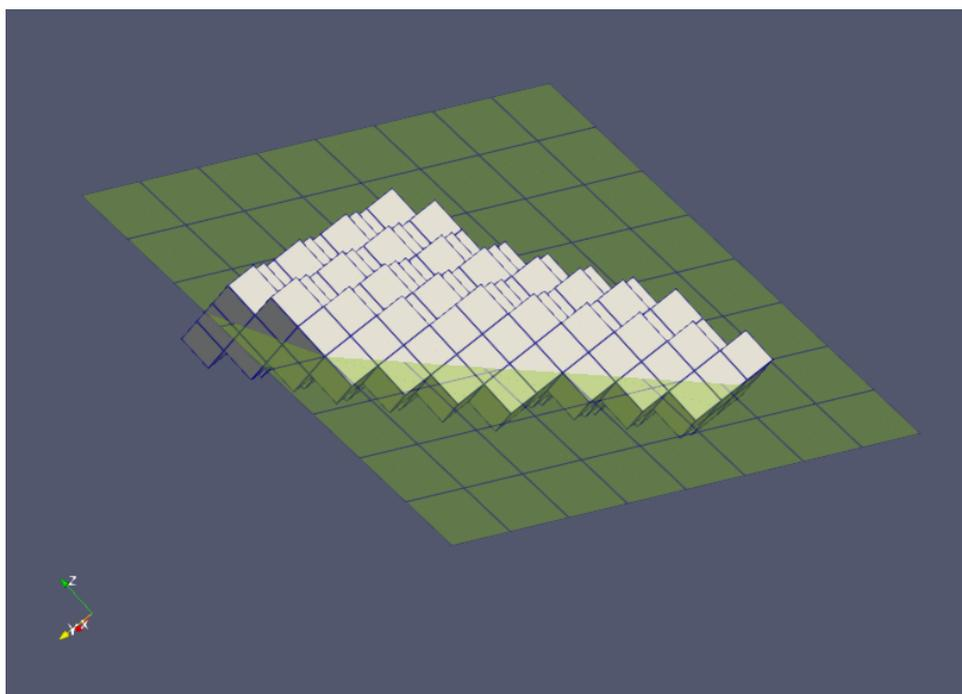

Fig. 2.53: Keep only those blocks (cells) that are cut by the clipping plane
- For block models, the **Keep only blocks along boundary** option will only keep those blocks in the output that are cut by the clipping plane: Fig. 2.53